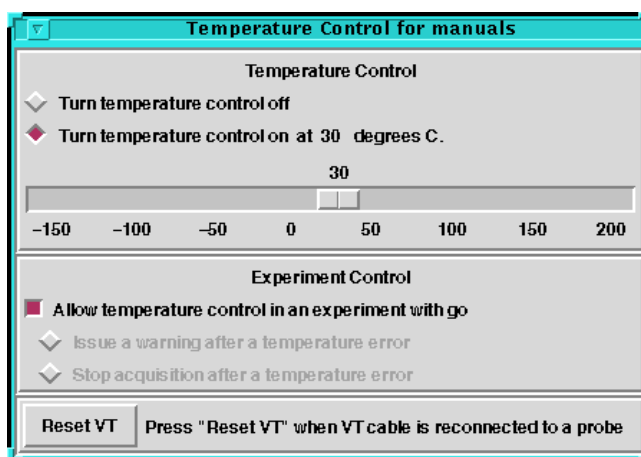

Figure 57. Temperature Control Window
For systems equipped with the optional variable temperature controller, the `temp` command opens the Temperature Control window, shown in Figure 57.
- Alternatively, turn off experiment control of the temperature and allow only the Temperature Control window, shown in Figure 57, (and the command `sethw`) to set the temperature.